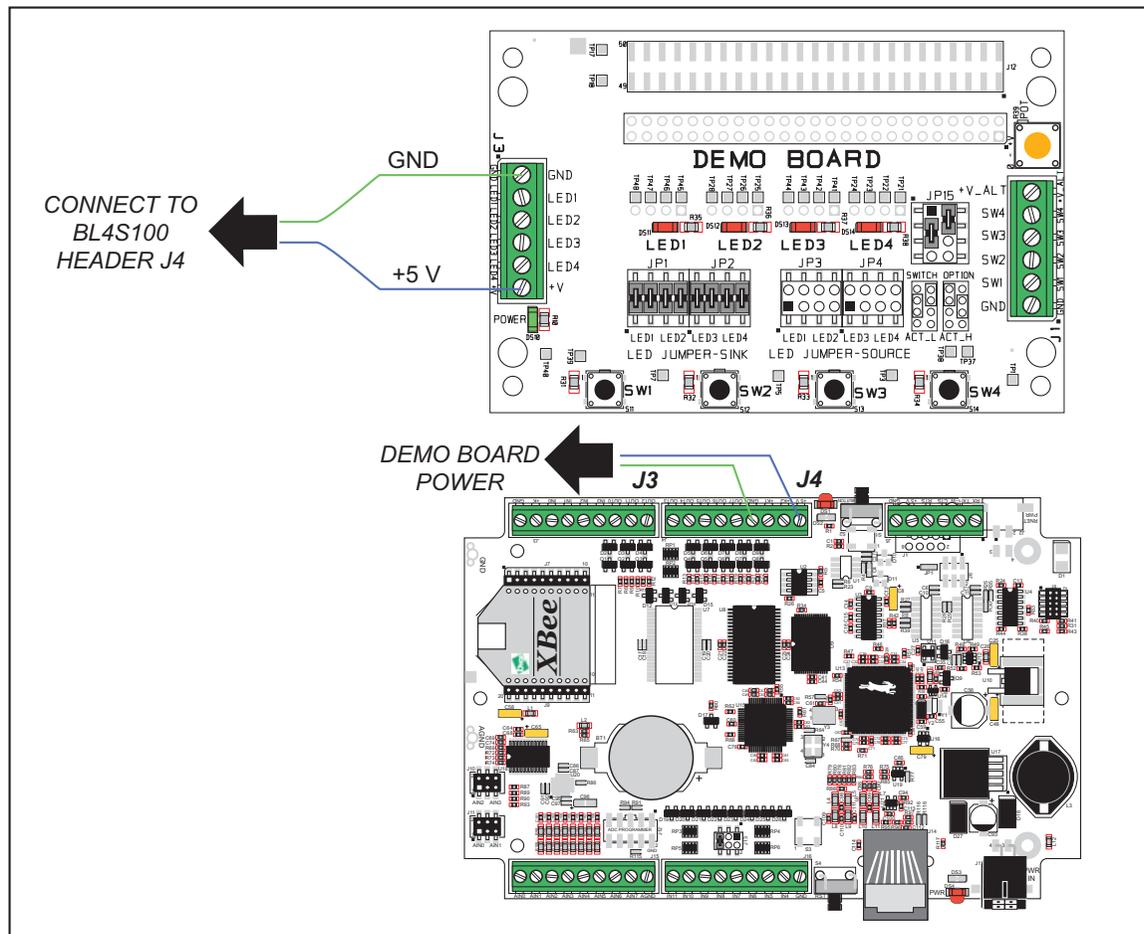
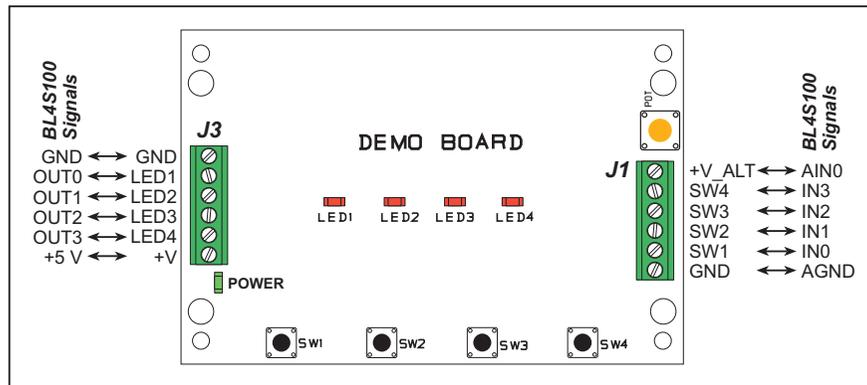

Figure 2. Power Supply Connections Between BL4S100 and Demo Board
Figure 3. Demo Board I/O Connections
1. Use wires to connect screw-terminal header J3 on the Demo Board to header J4 on the BL4S100. The connections are shown in Figure 2, with the green wire to GND and the blue wire to +V.
Figure 3 shows the I/O connections.
Figure 3 shows the pinouts for the input signals on screw-terminal header J1 and the outputs on screw-terminal header J3. It also shows all the I/O connections between the Demo Board and the BL4S100
NOTE: Header J3 shown in the above table corresponds to J3 in Figure 2, not the J3 header shown in Figure 3.